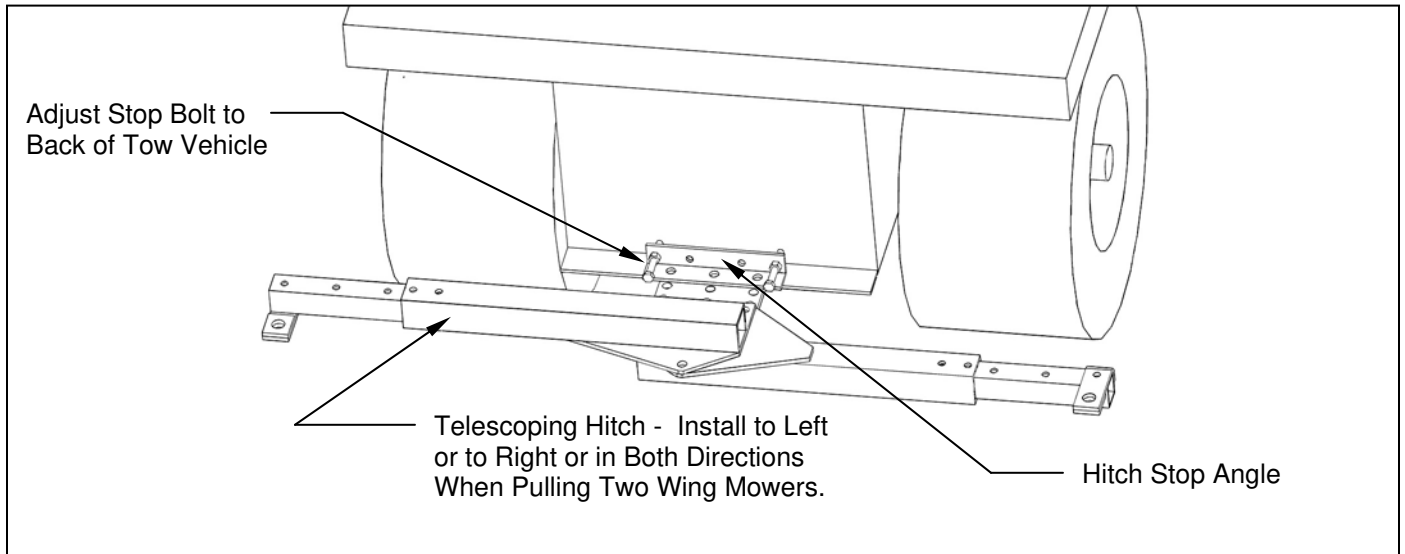

Figure 3: Installation of Tow Vehicle Hitch
3. Attach the tow vehicle hitch to the tow vehicle draw bar top or bottom depending on best support, and secure with the longer 1/2" hex head bolt, flatwasher, nut, and lockwasher provided. **See figure 3.**